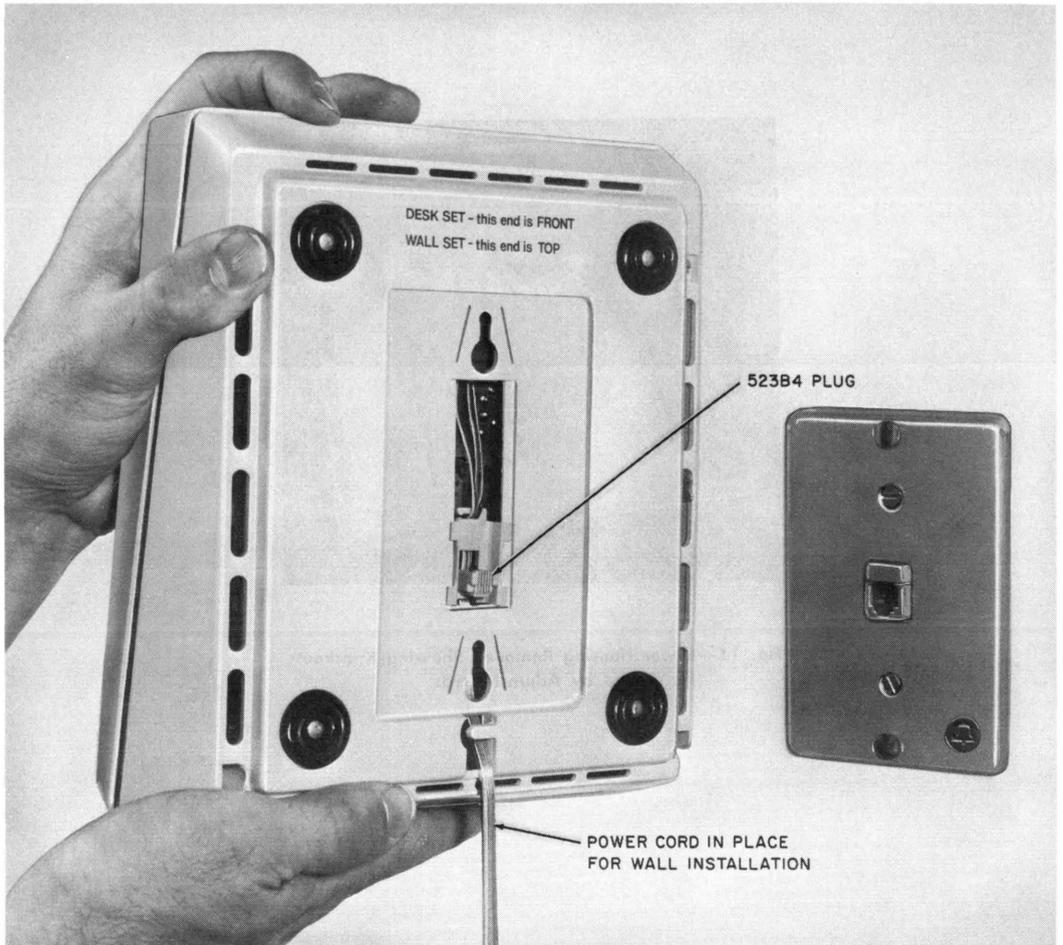

Fig. 10—960A01M Wall Set and 630A4 Connecting Block
that the word *TOP* is properly oriented in the housing (Fig. 10). The plug should slide freely in the slot.
(5) Insert the other end of the 523B4 plug into the jack position designated *PHONE* on the power supply board.
(6) Insert the power cord up through the cord opening below the plastic retainer tab in the bottom of the lower housing (Fig. 10).
(8) Place the lower housing on the chassis according to the instructions on the bottom (Fig. 10), and engage the four captive screws.
(9) Remove the station number card retainer and station number card from the upper housing.
(10) Disengage the captive screw from the chassis and lift out the concealed handset hook and screw from the cavity in the upper housing.
(11) Completely remove the captive screw from one side of the handset hook and insert it into the other side.
(13) Replace the station number card and card retainer.
(14) The converted wall set is intended to plug into and secure to a 630A4 connecting block (Fig. 10 and 14B).